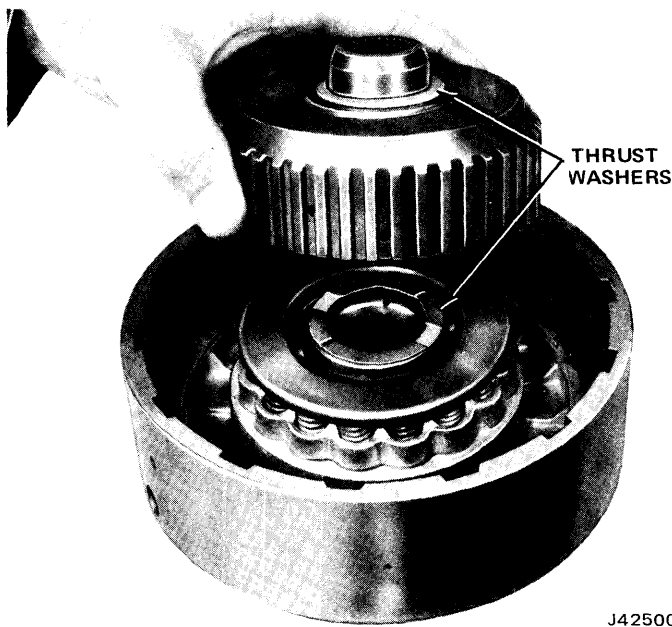

Fig. 7-73 Installing Forward Clutch Hub and Washers
(5) Compress springs using Clutch Spring Compressor J-25148 and arbor press and install spring retainer-to-piston snap ring.
(6) Press short-spline end of turbine shaft into forward clutch housing using arbor press if shaft was removed.
(7) Place thrust washers on forward clutch hub. Be sure bronze washer is installed on side of hub facing forward clutch housing. Use petroleum jelly to retain washers.
(8) Install hub and washers in clutch housing (fig. 7-73).